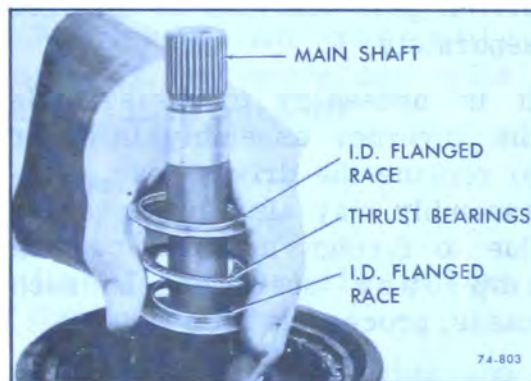

Figure 74-594
16. Lubricate with petroleum jelly and install center support to sun gear thrust races and bearing as follows: See Figure 74-594.